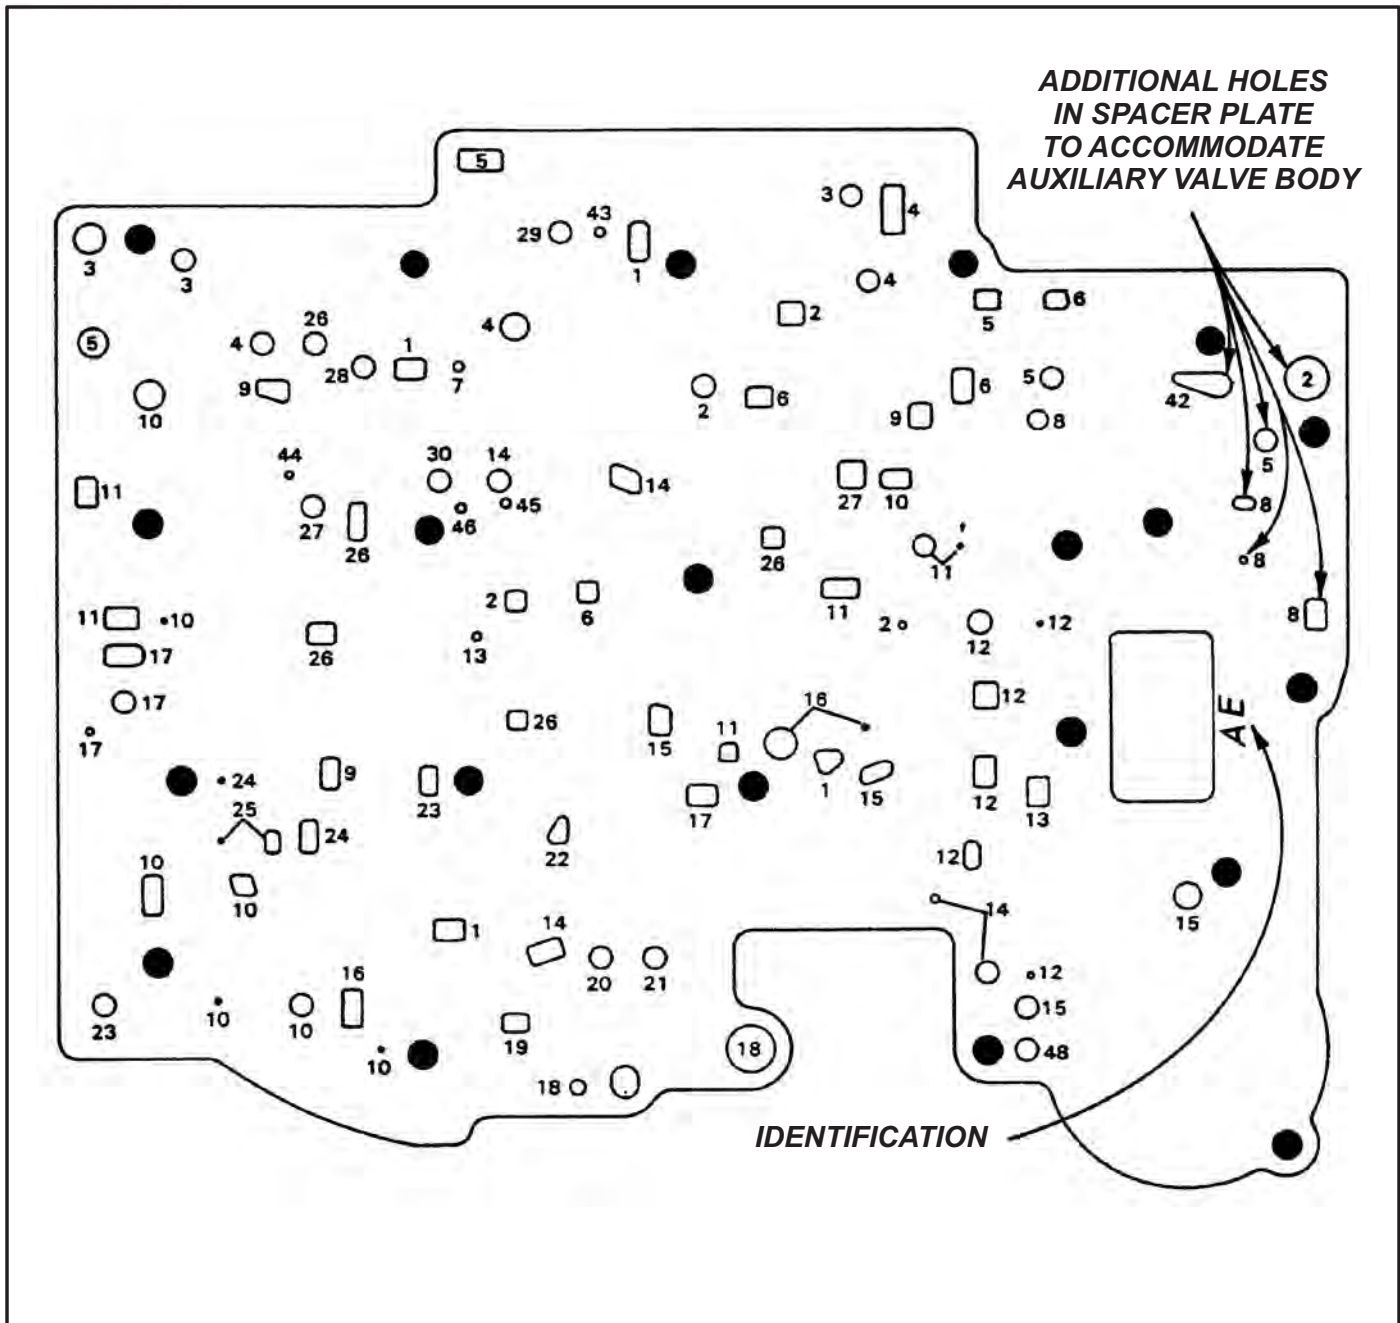

Figure 29
- (4) **VALVE BODY SPACER PLATE** - Several holes were added to the spacer plate to accommodate the added auxiliary valve body, and there is now a "Two" letter identification code stamped into all 1987 and later spacer plates, as shown in Figure 29.